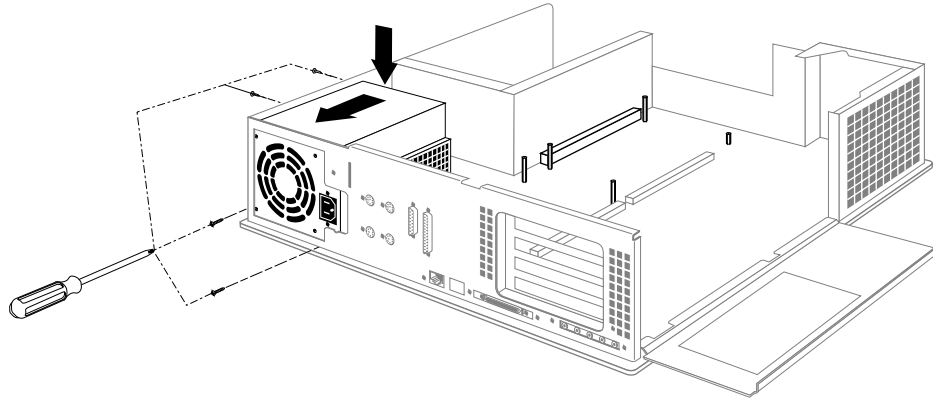

Figure 2-14 Installing the Power Supply
3. Install the new power supply and connect the power supply cables. Lower it into place, then slide it towards the back of the chassis. Align the screw holes on the power supply with the appropriate holes on the chassis, then install and tighten the screws. See Figure 2-14.